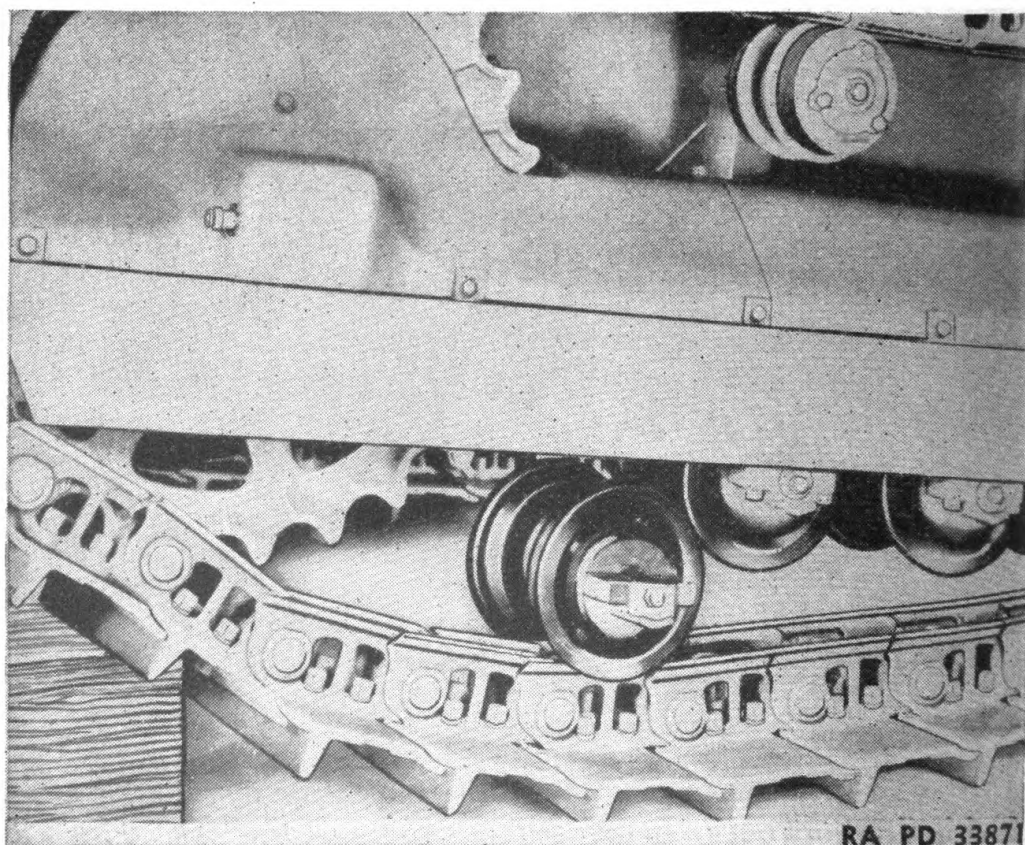

FIGURE 155.—Roller removal.
(4) Rollers and idlers are correctly adjusted when the outer surfaces of the end collars are flush with the shoulders on the shaft as at (1) and there is .010 inch to .019 inch end play. To adjust, assemble the roller or idler on the shaft with its thrust washers and end collars. Line up one end collar with the shaft shoulder and force the other collar on as far as possible. Add shims until this collar is flush with the shoulder on the shaft, minus the minimum allowable clearance. Shims should be divided equally and placed between the end collars and the thrust washers (not between the thrust washers).
b. Inspection.—(1) The rollers can be inspected without disconnecting the track by placing a block approximately 12 inches high immediately in front of one track and allowing the tractor to move forward until the block is approximately under the second roller (fig. 155). Then place another block immediately behind the same track and back the tractor onto the second block until the rear block is under the sprocket and the front block is under the idler. This will have pulled all the slack in the track to the bottom. Block the other track to prevent the tractor from moving.